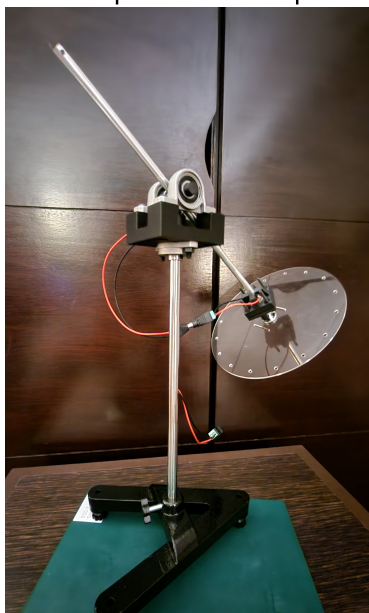

Figure 2
1. Fix the 20 cm diameter spinning disk with 3mm thickness on the DC motor and mount it on one side of the gyroscope arm in perpendicular direction as shown in Figure 2.